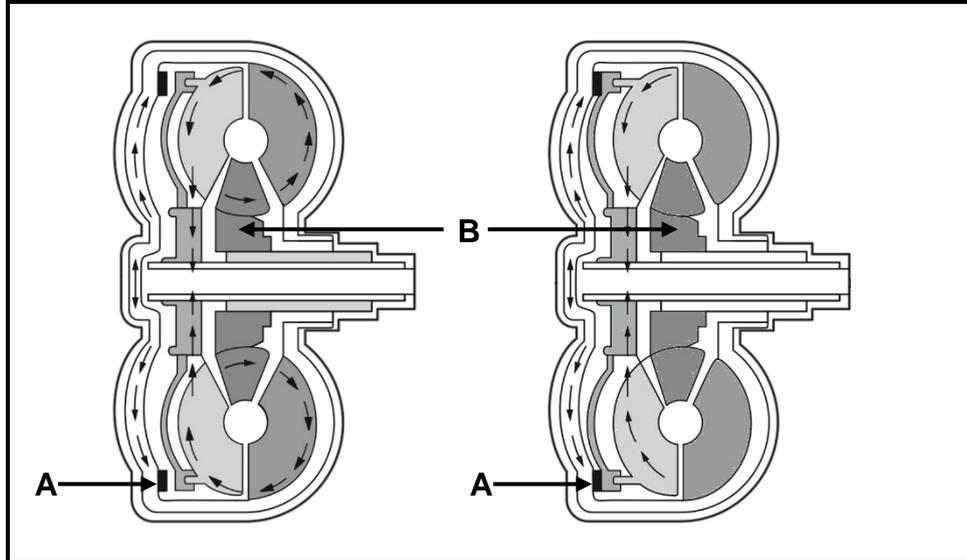

FIGURE 9.1
9.1 FIGURE 9.1 below shows a lockup torque converter. Answer the questions that follow.